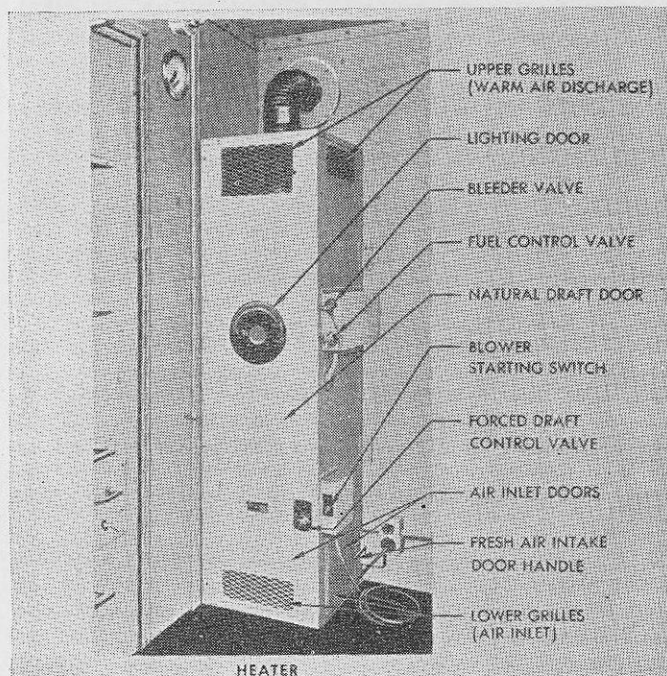

FIGURE 26.—Heater.
(1) Turn forced draft control valve and fuel control valve to the OFF position. (See fig. 26.)
(2) Check to see if the 12-gallon fuel tank located on the outside of the trailer just below the front line of the roof contains sufficient gasoline for operation. If necessary, fill with gasoline (leaded gasoline may be used). The removable ladder stowed inside the small door may be attached to cleats on the front of the trailer in order to inspect and fill the gasoline tank.
(3) Open shut-off valve at tank. Valve handle is in a vertical position when open.
(4) Bleed air from fuel line by turning bleeder valve handle counterclockwise. Catch escaping gasoline in a rag or can. Tighten bleeder valve after gasoline flows steadily and all air bubbles have been removed. (This operation is only necessary when lighting heater for the first time or if the fuel tank has been allowed to run dry.)
(5) Check to be certain that natural draft door is closed (in the down position).
(6) If operating on recirculated air, be sure that the two air inlet doors on the lower grills are open (up position), and that the fresh air intake door on the outside of the vehicle is closed. (To close this door, lift the operating handle.) Reverse this procedure when operating on fresh air.